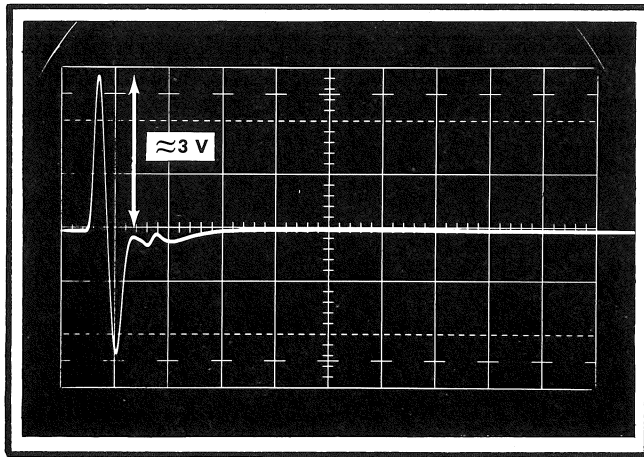

Fig. 7-13. Typical CRT display of waveform at TP200.
d. Observe a spike, as shown in Fig. 7-13, of about 3 volts positive peak.